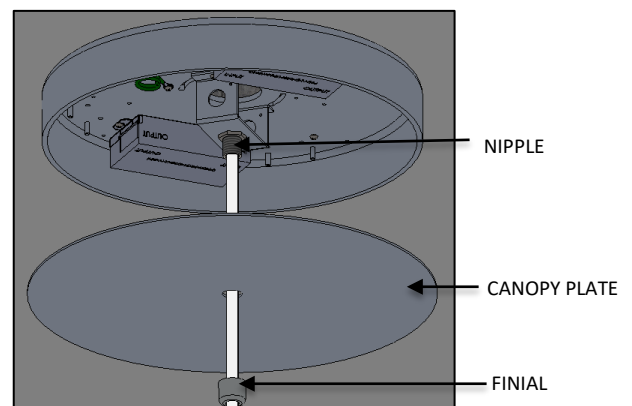

FIG. 30 – CANOPY PLATE AND FINIAL INSTALLATION
10. Once connections are given raise the CANOPY PLATE and secure to ceiling by threading the FINIAL to the NIPPLE (in CANOPY ASSEMBLY) until fully seated as shown in FIG. 30.